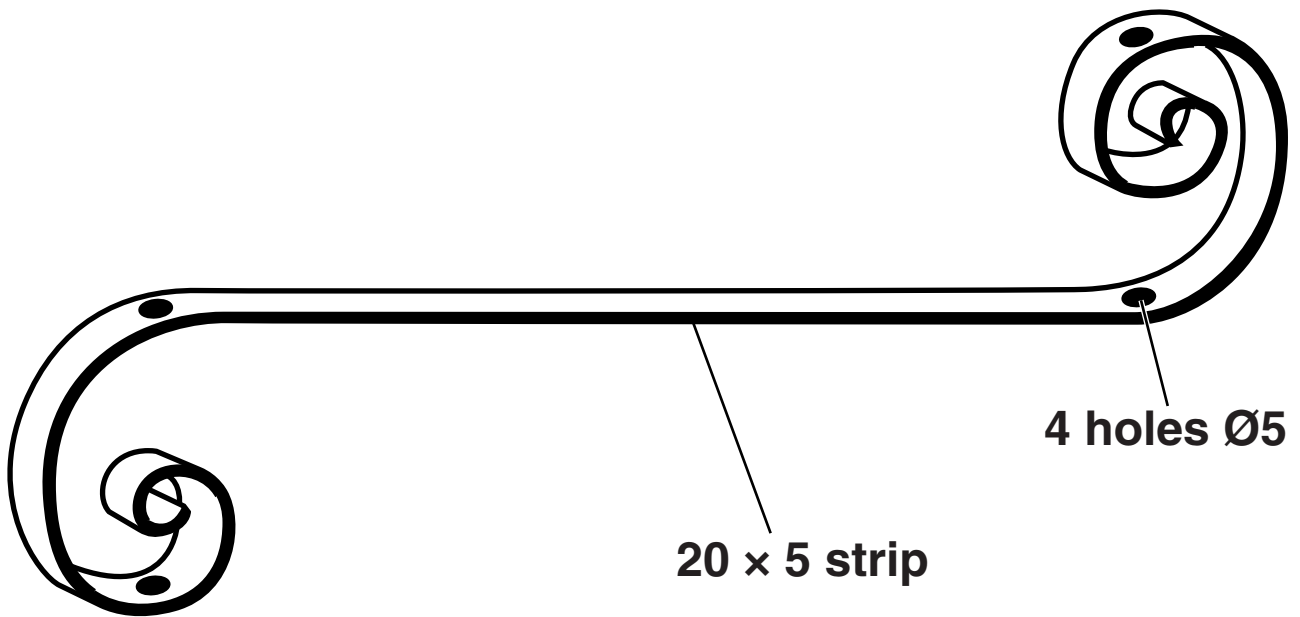

Fig. 3
Fig. 3 shows one of the scrolls from the decorative metal screen.
- (e) (i) State a SUITABLE SPECIFIC METAL for the scroll shown in Fig. 3. Give TWO properties or characteristics that make the metal suitable for this use.**
- (ii) Describe, in detail, how the scroll shown in Fig. 3 would be manufactured. Give details of any special tooling and quality control checks that would be used. Use a flowchart and/or annotated diagrams to support your answer.**